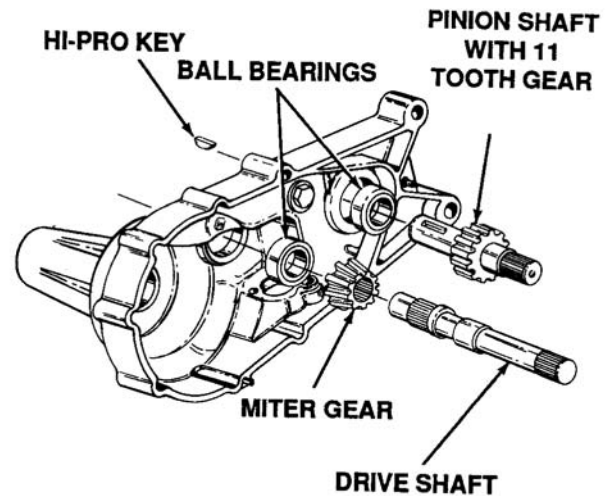

Figure 6-39. Pinion Shaft With 11 Tooth Gear Removal
18. Remove pinion shaft with 11 tooth gears, first remove the hi-pro key from shaft. Then pull gear and shaft out of housing. See Figure 6-39. Inspect gear teeth for any damage and inspect shaft for any damage on splines. Replace if necessary.